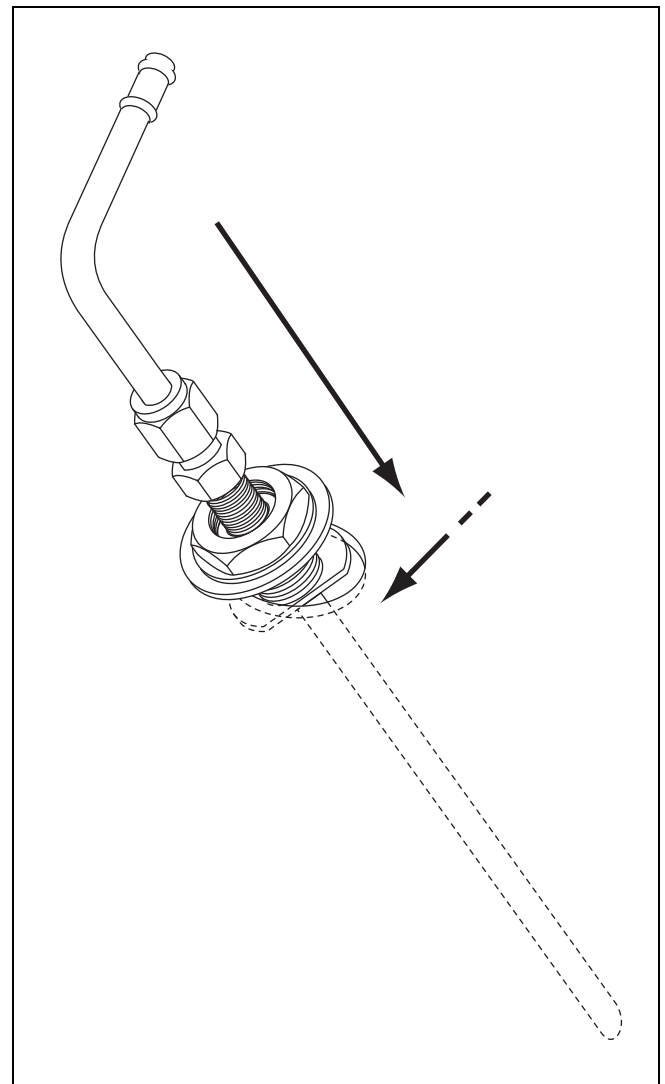

Figure 18: Standpipe installation - illustration 1
6. slide standpipe into hole at angle. Slip one shoulder of item F, Figure 17 inside the hole as shown in Figure 18.